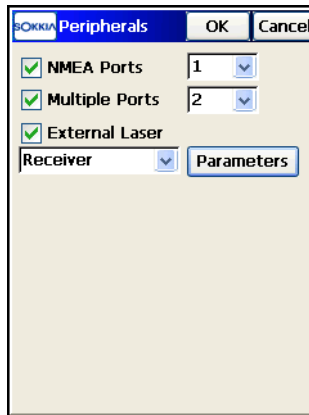

Figure 4-19. Rover Receiver Options
8. To use the *CSD* form of data transmission for receiving RTK corrections through a cellular phone used as a modem, select the *RTK protocol* option from the **Help Icon** menu in the upper left corner of the screen (Figure 4-19 on page 4-14).
If Multiple Ports are set for peripherals (see Figure 4-19 on page 4-14), depending on the number of ports selected, there can be up to two *Rover Radio* screens to configure radios for data input.
If NMEA Ports are set (see Figure 4-19 on page 4-14), depending on the number of output ports selected, there can be up to two *Config: Output Radio* screens to configure radios for NMEA data output.
2. Check and enable the **NMEA Ports** box on the **Peripherals** screen (Figure 4-19 on page 4-14) and select the number of ports for output of NMEA messages.
2. Check and enable the *External Laser* box on the *Peripherals* screen (Figure 4-19 on page 4-14) and select the device (either *Receiver* or *Controller*) the laser is connected to.